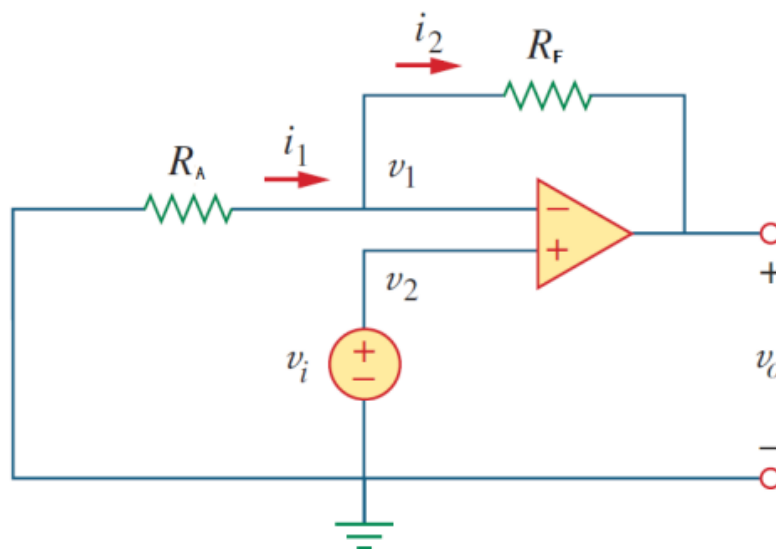

Figure 7. The circuit of non-inverting amplifier
- a) We should build the circuit according to the diagram below (Figure 7), where  $R_F = 100\Omega$  and  $R_A = 50\Omega$ . We should note that the power supply is going to provide  $+V_{cc}=+5V$  and  $-V_{cc}=-5V$  to the op amp, and we should use the **COM** port on the power supply as the **ground** in the schematic.